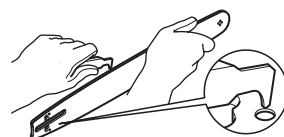

Fig. 47
3. Check the drive sprocket (21). If it is worn or damaged due to strain, have it replaced by an authorised service centre or a similarly qualified person.
4. Clear residue from the rails on the guide bar (11) using a screwdriver, putty knife, wire brush or other similar tool. This will keep the oil passages open to provide proper lubrication to the guide bar (11) and saw chain (10) (Fig. 47).